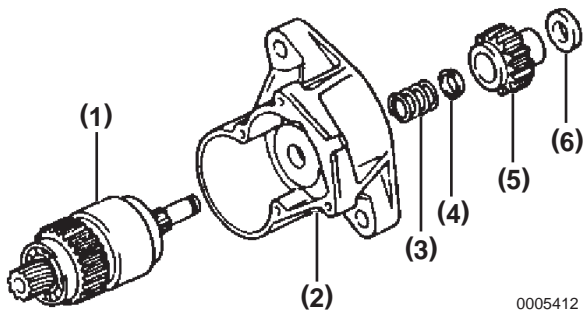

Figure 10-25
5. Reassemble the clutch shaft and starter clutch assembly, starter housing, compression spring, retainer, pinion gear and stop collar (**Figure 10-25**).